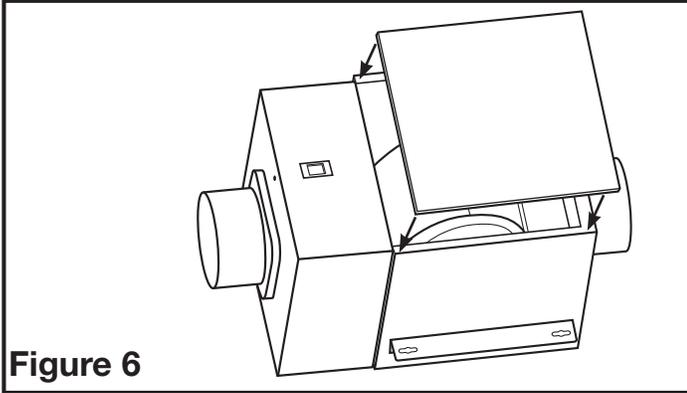

Figure 6
1. Remove the wire compartment cover screw and place cover in a secure place (Figure 6).
1. Re-install the lid, making sure that the lip on the lid tucks underneath the AKZA panel once the panel is re-installed (**Figure 6**).